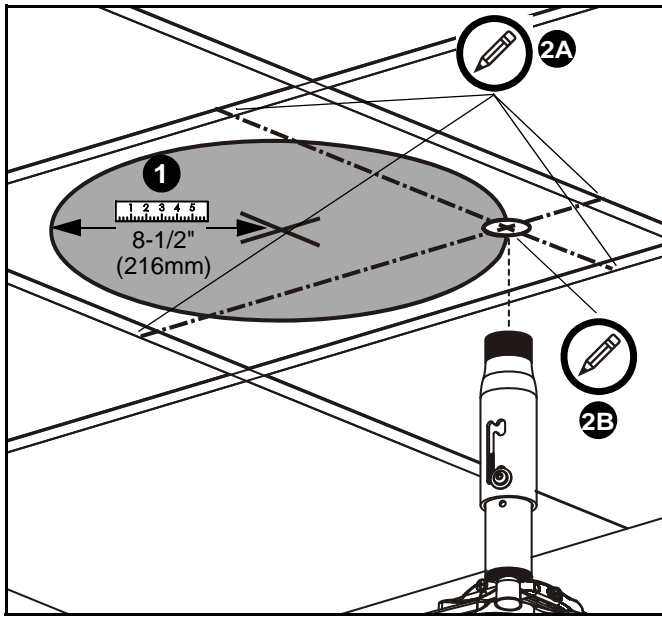

Figure 1
1. Determine exact location of extension column (accessory not included) on suspended ceiling. Ensure column centerline falls within 8-1/2" (216mm) radius of tile centerpoint (See Figure 1).
2. Mark location of column determined in Step 1 with pencil (See Figure 1):